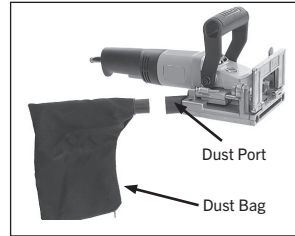

Fig. 7: Installing dust bag into dust port
1. Push plastic end of dust bag into dust port, as shown in Figure 7.